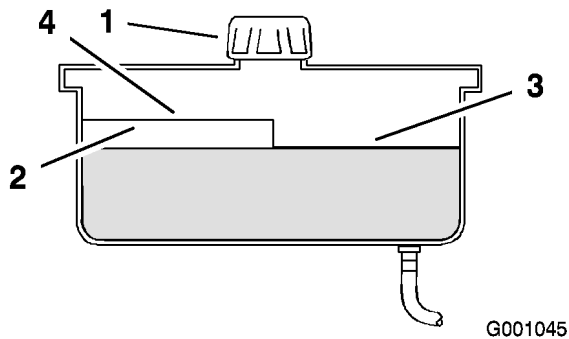

Figure 66
2. Clean the area around filler neck of hydraulic tank (Figure 66).
3. Remove the cap from the filler neck. Look inside to check if there is fluid in the reservoir (Figure 66).
Note: The fluid level should be to the top of the hot level of the baffle, when the fluid is hot (Figure 66).